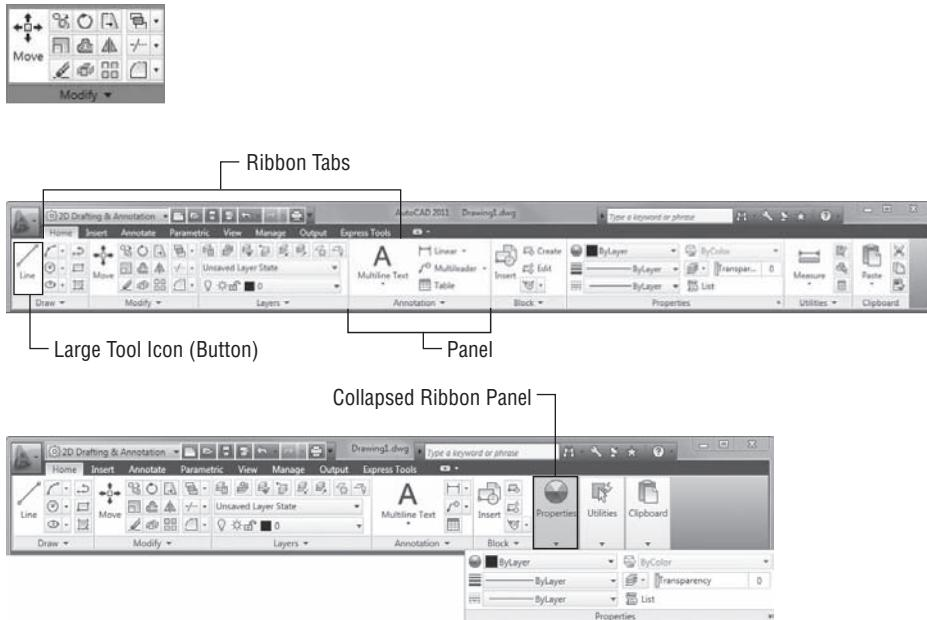

FIGURE 1.19 The Ribbon fully displaying all panels (top) and with partially and completely collapsed panels (bottom)
Perhaps one of the most prominent elements of the AutoCAD interface is the Ribbon (Figure 1.19). While the Ribbon can be positioned in a number of different ways, its default position extends across the top of the AutoCAD window. Depending on the size of your AutoCAD window (or current screen resolution), the Ribbon may look a little different on your computer. That's because the Ribbon self-adjusts according to the size of the AutoCAD window itself. To see the Ribbon in its fully expanded state, you need to be sure to have a screen resolution wider than 1280 pixels. When the width is too narrow to display each panel fully, the panels will begin to collapse first by replacing the panels with a single button bearing the name of the panel.
1. Click the Home tab on the Ribbon to expose the Home tab's panels (see the top of Figure 1.19 shown earlier).